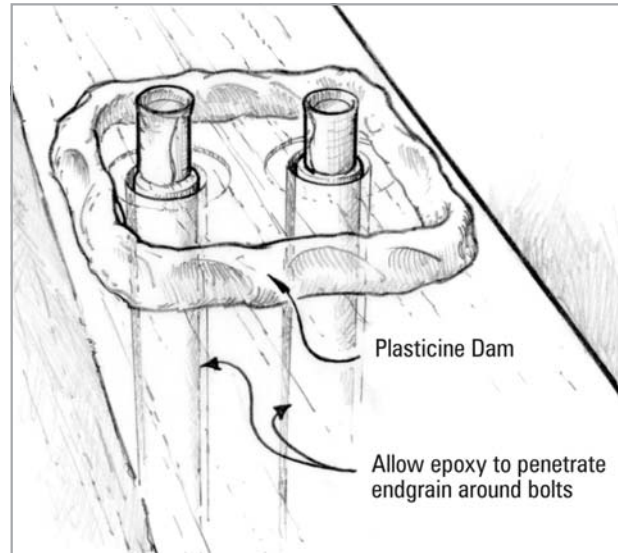

Figure 4-14 Build an epoxy reservoir around each keel bolt.
4. After blowing out the dust and shavings, wrap duct tape around the bolt threads and construct a 1/4" high dam around the bolt hole with plasticine (modeling clay) (Figure 4-14).